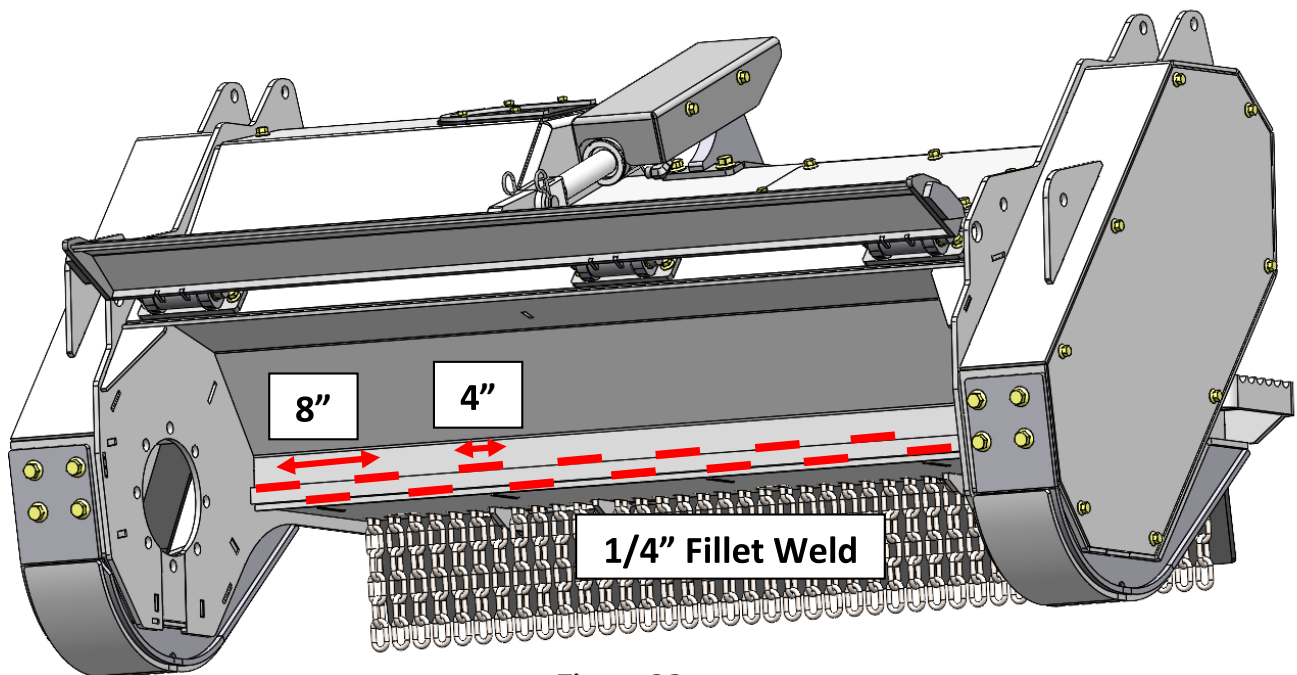

Figure 28
7. Follow the welding pattern illustrated in Figure 28.